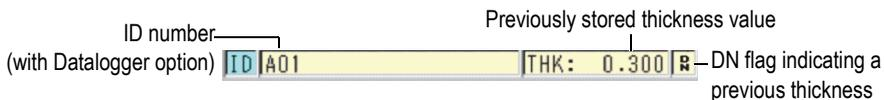

Figure 3-3 The ID bar
The ID bar (available with the Datalogger option), located at the top of the measurement screen, contains the ID for the actual thickness-measurement location and the previously stored value (see Figure 3-3 on page 32). The download indicator (R) appears when the previously stored thickness measurement comes from a file rather than a newly acquired value.